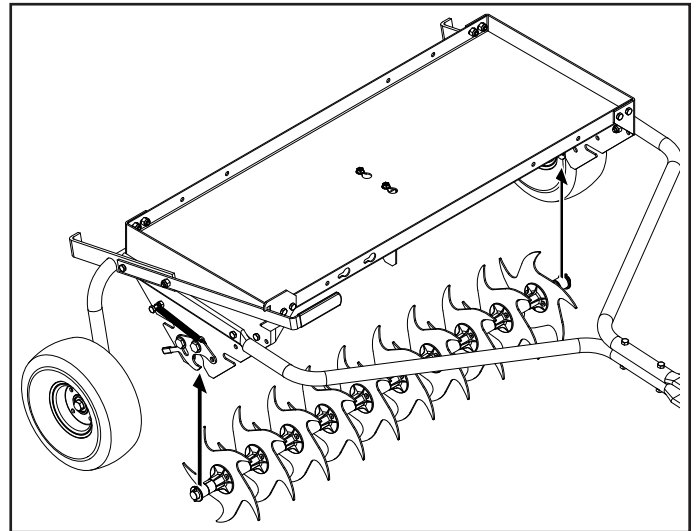

FIGURE 11
1. Slide the bushings on each end of the tool into the axle retainers one end at a time. Make sure the axle retainers snap into the lock position. See figure 11.